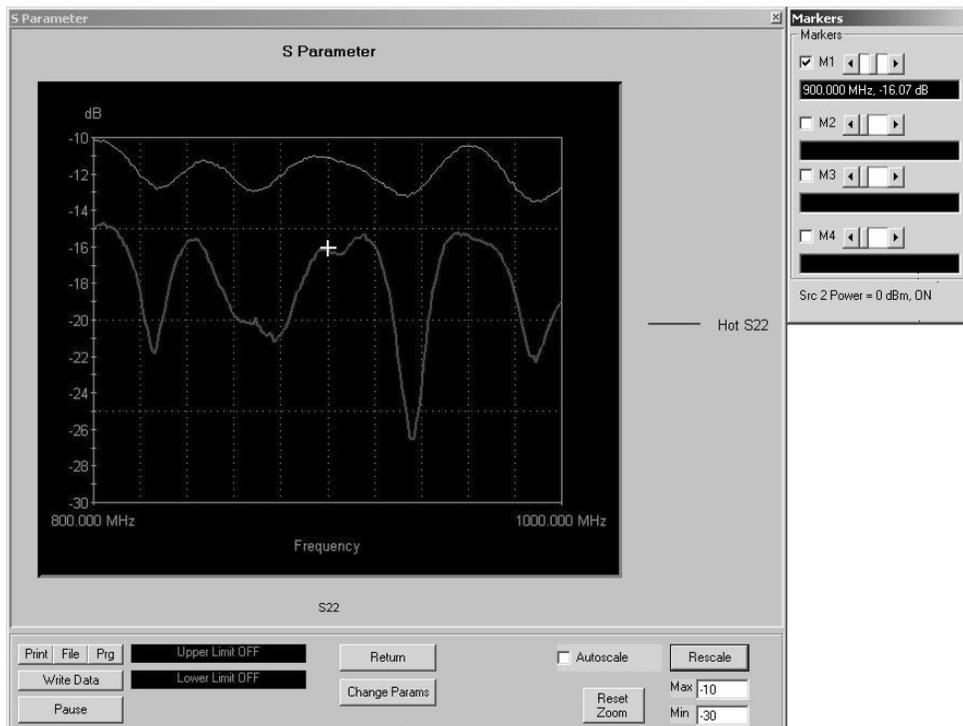

Figure 5-14. Hot S22 Test Screen
- **Select Start Test:** Observe that the test screen (Figure 5-14) appears.